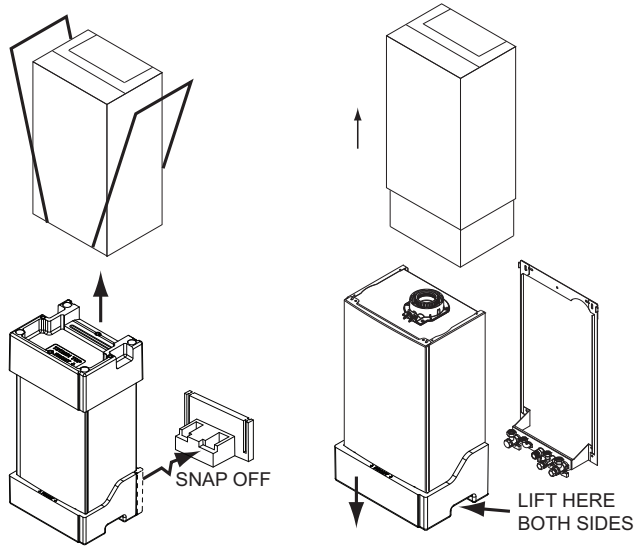

Fig. 16
8.5 Flue Deflector (Fig. 16)
2. Follow the procedure on the carton to unpack the boiler or see Fig. 16.